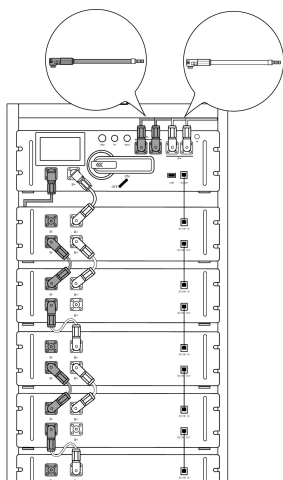

Figure 2-3
3. Attach to the PCS: See the figure 2-3 and figure 2-4.